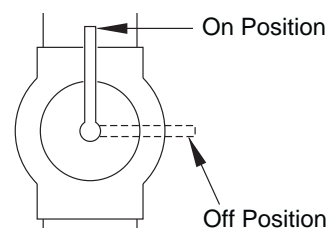

Figure 18 - Equipment Shutoff Valve
4. Turn equipment shutoff valve clockwise to OFF position (see Figure 18).
5. Wait five (5) minutes to clear out any gas. Then smell for gas, including near the floor. If you smell gas, **STOP!** Follow "B" in the safety information, column 1. If you don't smell gas, go to next step.
6. Turn equipment shutoff valve counterclockwise to ON position (see Figure 18).